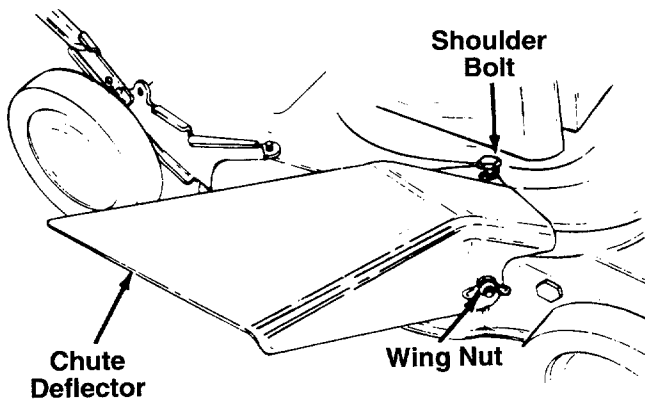

FIGURE 8.
1. Attach the side chute deflector by first placing it over the rear bolt in the side of the deck. Then slide the notch in the top of the deflector around the shoulder bolt on top of the deck. Slide the notch in the side of the deflector around the front bolt in the side of the deck. See figure 8.